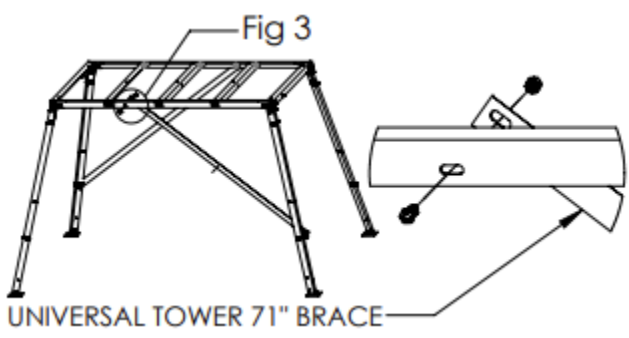

Fig 3
4. Attach 71" brace to the base on the long side using 1 - 3/8" x 1" bolt & 1 - 3/8" nylon lock nut. Repeat on opposite side of base. Do not tighten these at this time. (Fig 3)